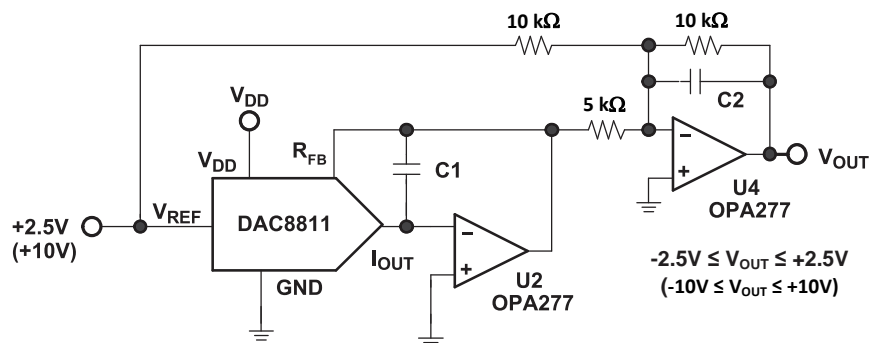

Figure 22. Bipolar Output Circuit
Some applications require full 4-quadrant multiplying capabilities or bipolar output swing. As shown in Figure 22, external op amp U4 is added as a summing amp and has a gain of 2X that widens the output span to 5 V. A 4-quadrant multiplying circuit is implemented by using a 2.5-V offset of the reference voltage to bias U4. According to the circuit transfer equation given in Equation 2, input data (D) from code 0 to full scale produces output voltages of  $V_{OUT} = -2.5$  V to  $V_{OUT} = +2.5$  V.
External resistance mismatching is the significant error in Figure 22.